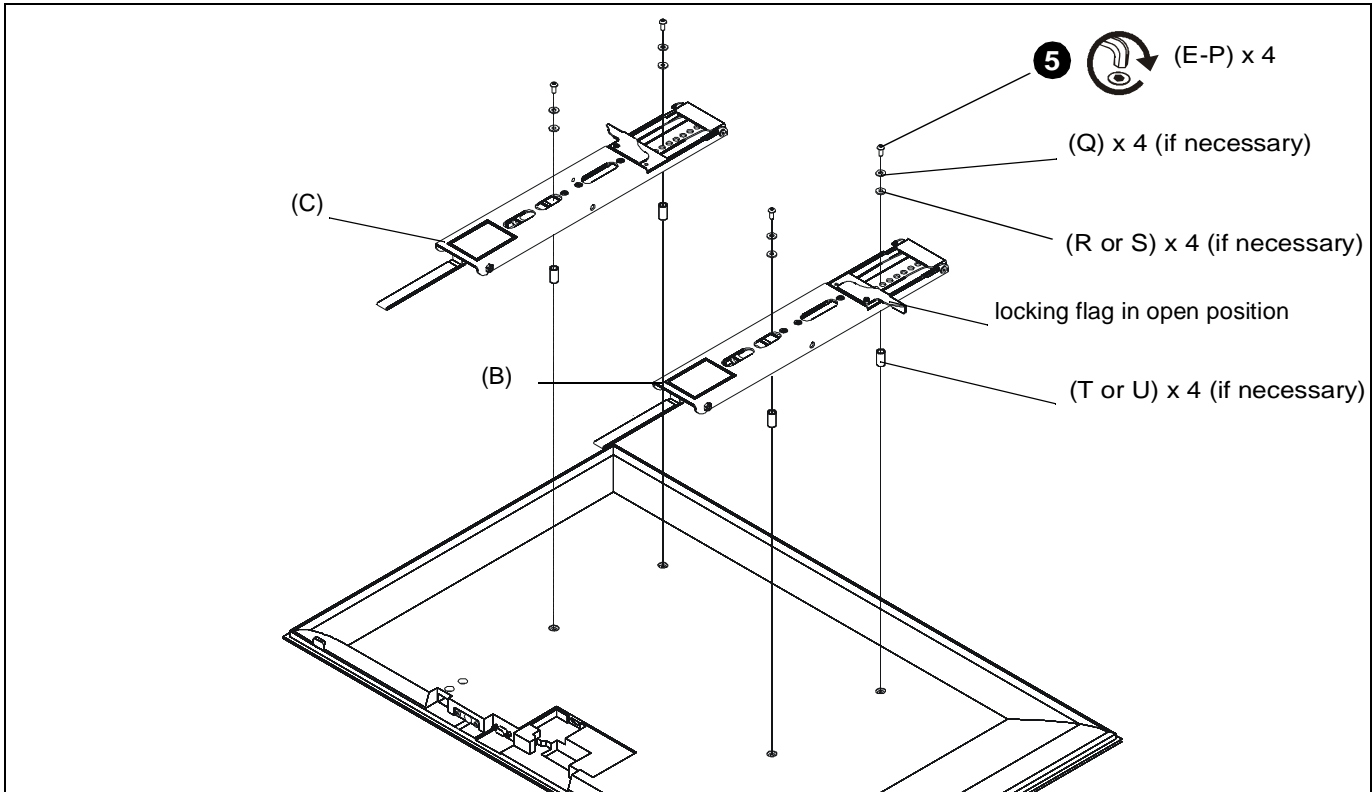

Figure 3
5. Install four button head cap screws (E-P) through required washers (Q) and spacers (R-U), interface brackets (B and C) into holes on back of display. (See Figure 3)
NOTE: Make sure locking flags are in the open position before attaching display to wall plate. Flags are shown in the open position in Figure 3.